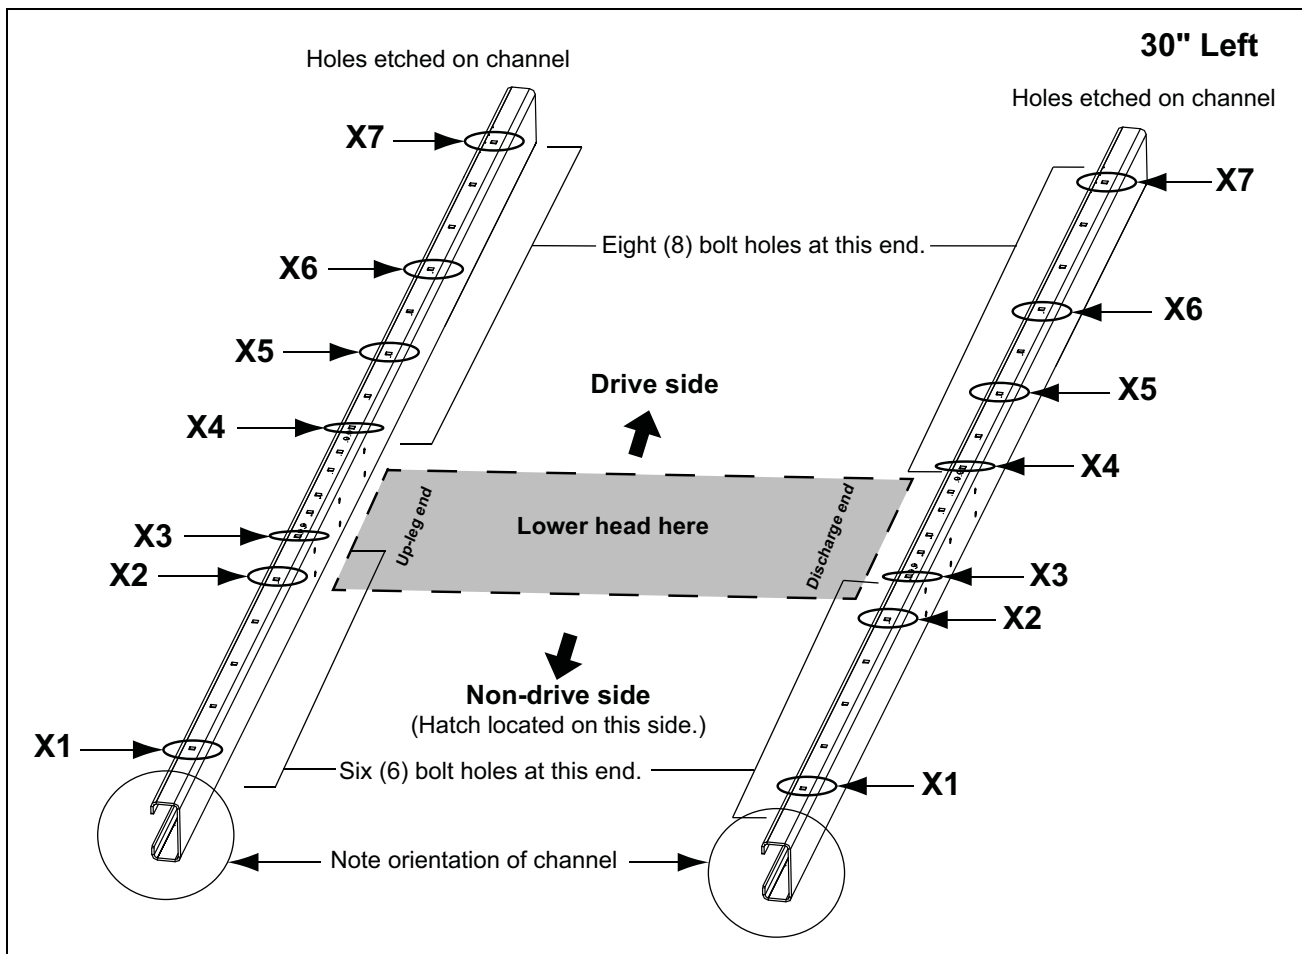
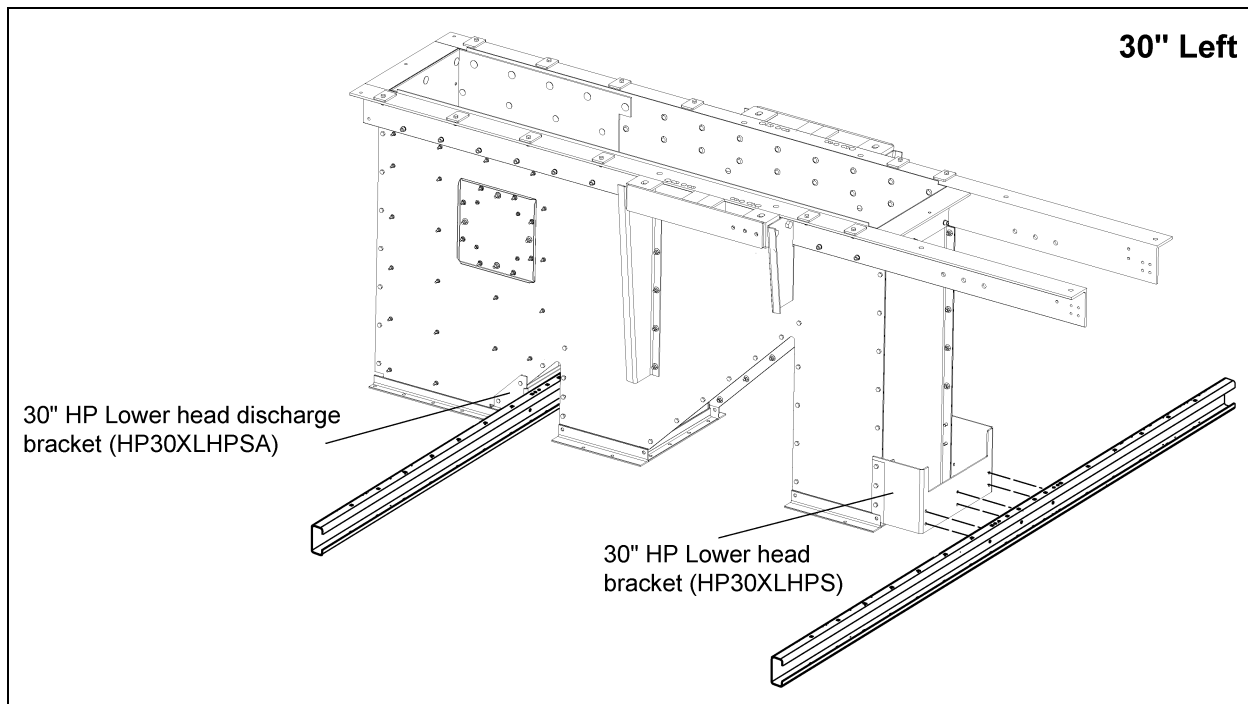

Figure 9B 30" Left Side Drive Channel Position
Figure 9C 30" Left Drive - Cross Deck Support Channels to Lower Head Brackets
(See Figure 9B on Page 63.)
3. Attach cross deck support channels (HP36DSCX) to the top-most set of holes of the lower head brackets (HSP36130) using 3/8" x 1" bolts and nuts. (See Figure 9C on Page 63.)
- *NOTE:** *The channels MUST be oriented as shown in Figure 9B and Figure 9C on Page 63 in order for the decking and subsequent assembly to be done correctly.*